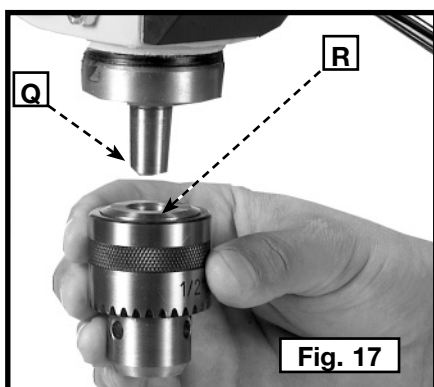

Fig. 17
NOTE: Make certain that the spindle taper (Q) Fig. 17 and the tapered hole in the chuck (R) are clean and free of grease, lacquer, or rust preventive coatings.